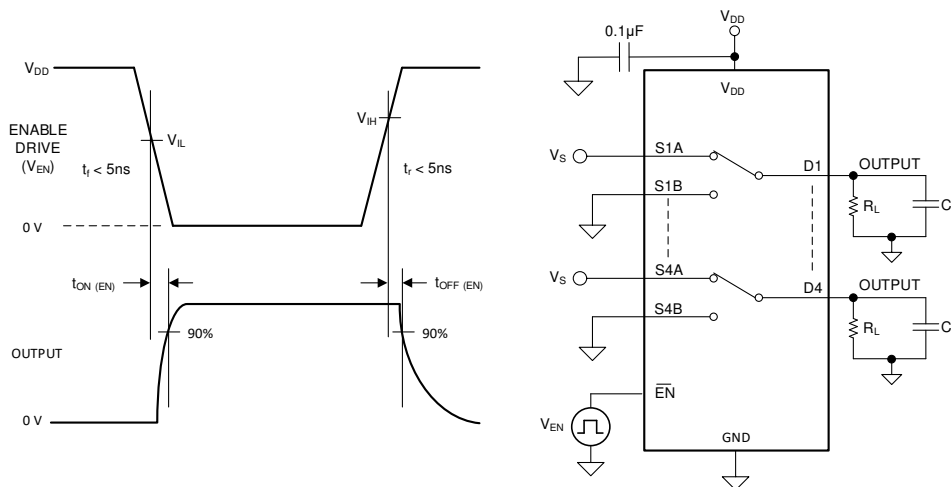

Figure 22. $t_{\text{ON (EN)}}$ and $t_{\text{OFF (EN)}}$ Time Measurement Setup
7.6 $t_{\text{ON (EN)}}$ and $t_{\text{OFF (EN)}}$ Time
The $t_{\text{ON (EN)}}$ time is defined as the time taken by the output of the device to rise to 90% after the enable has fallen past the logic threshold. The 90% measurement is used to provide the timing of the device being enabled in the system. Figure 22 shows the setup used to measure the enable time, denoted by the symbol $t_{\text{ON (EN)}}$.
The $t_{\text{OFF (EN)}}$ time is defined as the time taken by the output of the device to fall to 90% after the enable has fallen past the logic threshold. The 90% measurement is used to provide the timing of the device being disabled in the system. Figure 22 shows the setup used to measure enable time, denoted by the symbol $t_{\text{OFF (EN)}}$.